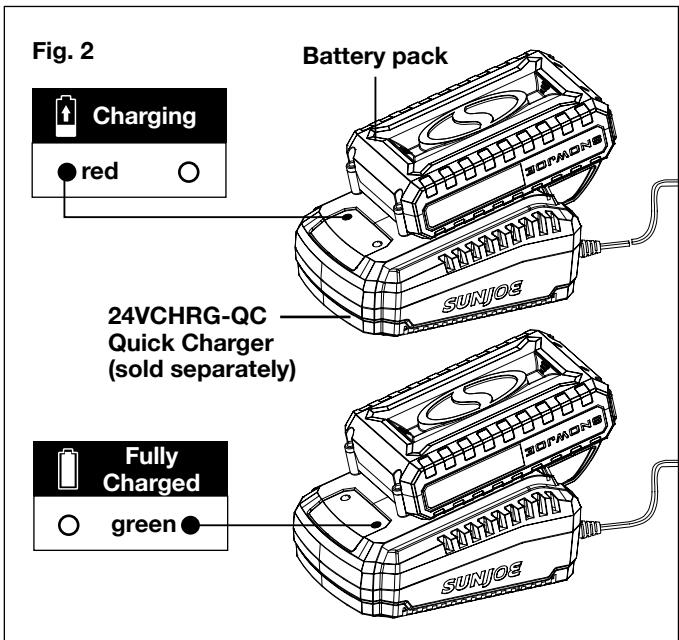

Fig. 2
- Depending on your Snow Joe® + Sun Joe® charger model, how to recharge your lithium-ion battery will vary. You may either insert your 24-volt battery into the 24VCHRG-QC Quick Charger (sold separately) or the 24VCHRG-DPC Dual-Port Charger (sold separately) (Figs. 2 – 3).
4. The 24VCHRG-QC Quick Charger (sold separately) and the 24VCHRG-DPC Dual-Port Charger (sold separately) are also equipped with additional charging indicating lights that will indicate the charging status (Figs. 2 – 3).